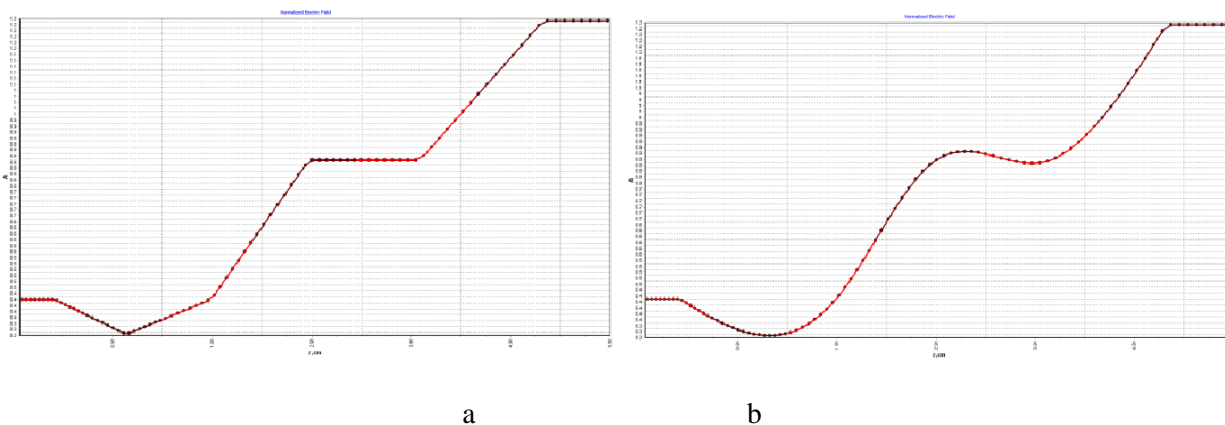

Fig. 4.2 Interpolation types (a-linear; b-cubic)
- **Spline Interpolation.** In Hellweg relative phase velocity and accelerating field amplitudes are defined at the center of the cells. If the interpolation parameter is defined, these functions will be interpolated along z-axis: 0- linear, 1-cubic spline, 2-smoothing spline. Figure 4.2 presents the examples of linear and cubic interpolation. It is recommended to use linear interpolation to avoid nonphysical field oscillations.